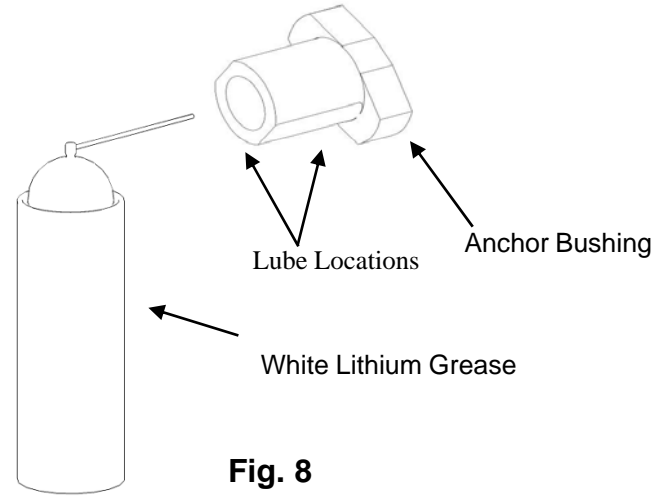

Fig. 8
2. Lube all 4 Anchor Bushing with white lithium grease. Do this by spraying or manually applying the grease to the inside of the Anchor Bushing. See Figure 8.